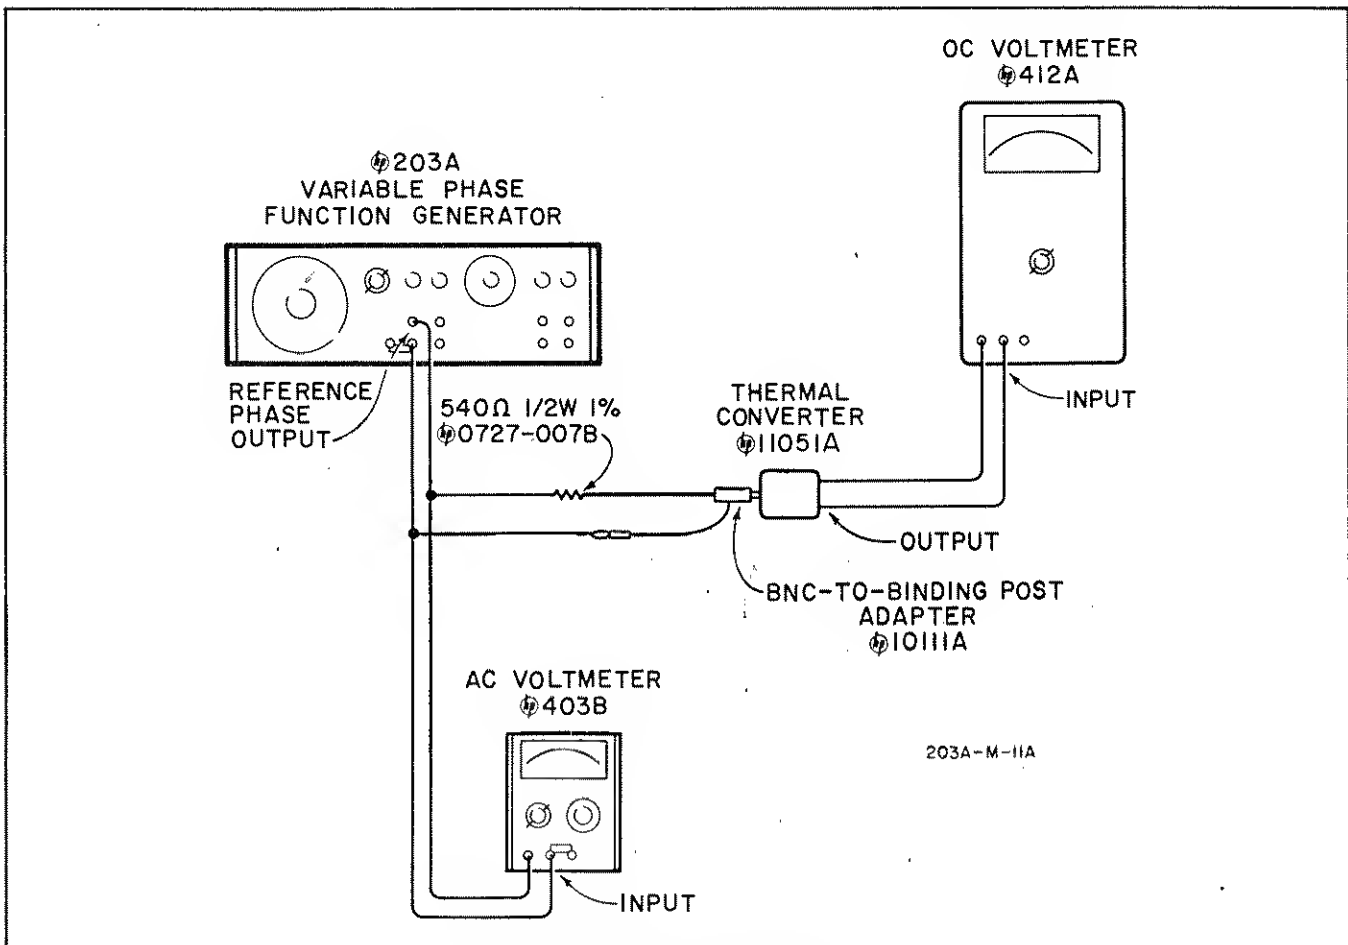

Figure 5-2. Frequency Response
b. Connect Model 203A as shown in figure 5-2, using very short leads between the Model 203A and Thermal Converter.